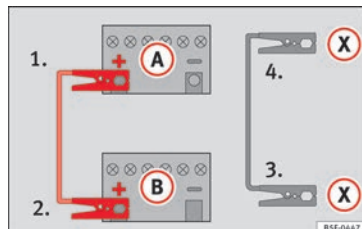

Fig. 80 Diagram of connections for vehicles with Start Stop system
- 4b. *For vehicles with Start-Stop system:* connect one end of the *black* jump lead (X) to a suitable ground terminal, to a solid piece of metal in the engine block, or to the engine block itself » Fig. 80. »